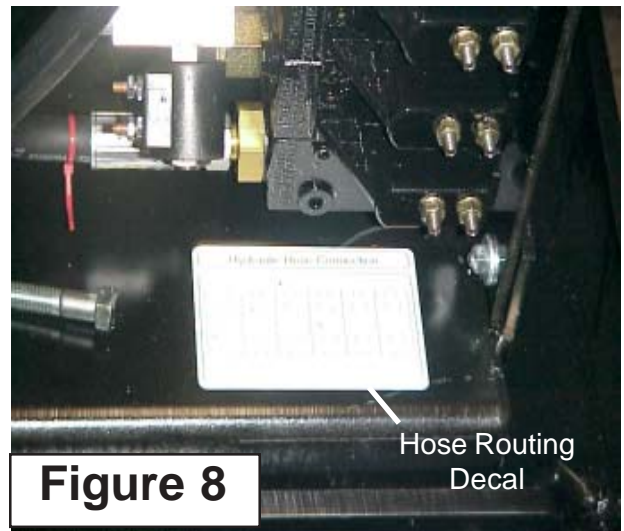

Figure 8
6. Hose Routing. The Hose routing is shown on a decal located on the tank, the RH side below the valve. All the hoses cannot be connected at this time. The hoses and wire harness must be covered with the supplied sleeving in mount kit. All hoses will color coded with colored plastic ties, these codes are listed below (See Figure 8 & 9) as well as on a decal on tank. When connecting hoses follow these color codes as shown here as well as other place in manuals.